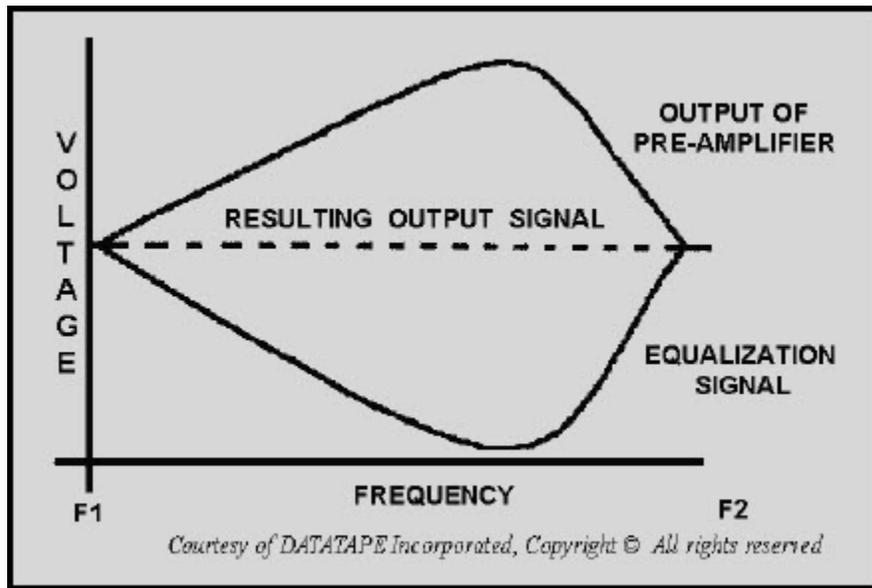

Figure 5-3 Equalization process
2. Equalization and phase correction circuit. This circuit takes the pre-amplified signal and fixes any frequency response problems that the reproduce magnetic head may have caused. To better understand this, look at the voltage *versus* frequency response graph in figure 5-3. The top of the graph shows the input signal that comes from the pre-amplifier and the bottom shows the *equalization* signal generated by the equalization circuit. In the top part of the graph, note how the output voltage level varies as the frequency of the signal varies. This isn't good. A good output voltage level is one that remains constant as the frequency changes. The equalization signal corrects this problem. Notice that when the input signal and the equalization signal are combined they cancel each other out. This allows a nice flat (voltage *versus* frequency) output signal to go to the output amplifier circuit.